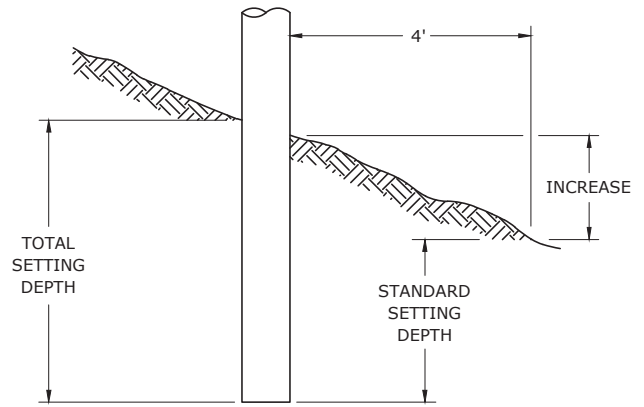

FIGURE 2
1. IF GROUND SLOPE IS 1 FT. IN 5 FT. OR LESS (FIGURE 2), POLE MAY BE SET TO STANDARD DEPTH WITH NO INCREASED DEPTH DUE TO SLOPE (DEPTH MEASURED FROM UPPER GROUND LEVEL).